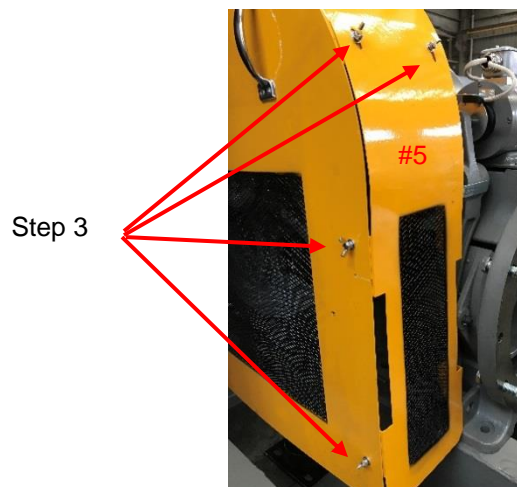

Figure 4 - Install Car Side Rope Guard
**Step 3:** Install Car Side Rope Guard [#5] to Main Sheave Guard using (2) wing nuts and wing bolts, (4) lock washers, and flat washers. See Figure 4.